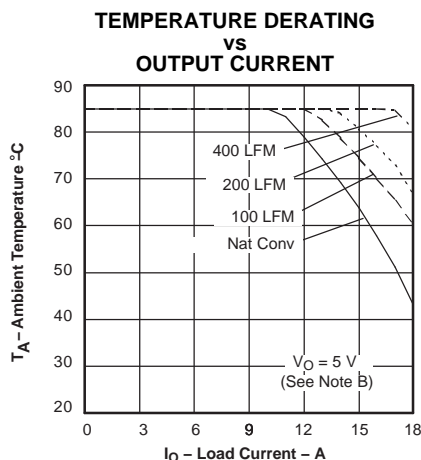
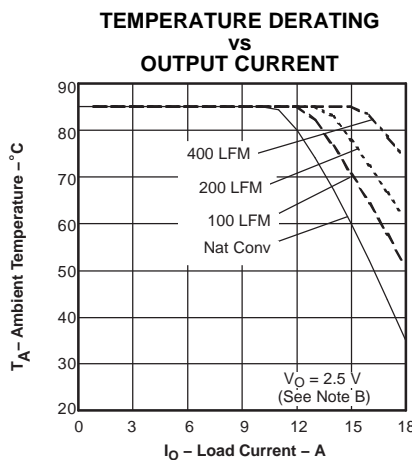

Figure 4.
Figure 5.
- (2) Note B: The temperature derating curves represent the conditions at which internal components are at or below the manufacturer's maximum operating temperatures. Derating limits apply to modules soldered directly to a 4 inch × 4 inch double-sided PCB with 1oz. copper. For surface mount products (AS and AZ suffix), multiple vias (plated through holes) are required to add thermal paths around the power pins. Please refer to the mechanical specification for more information. Applies to Figure 4, Figure 5 and Figure 6.